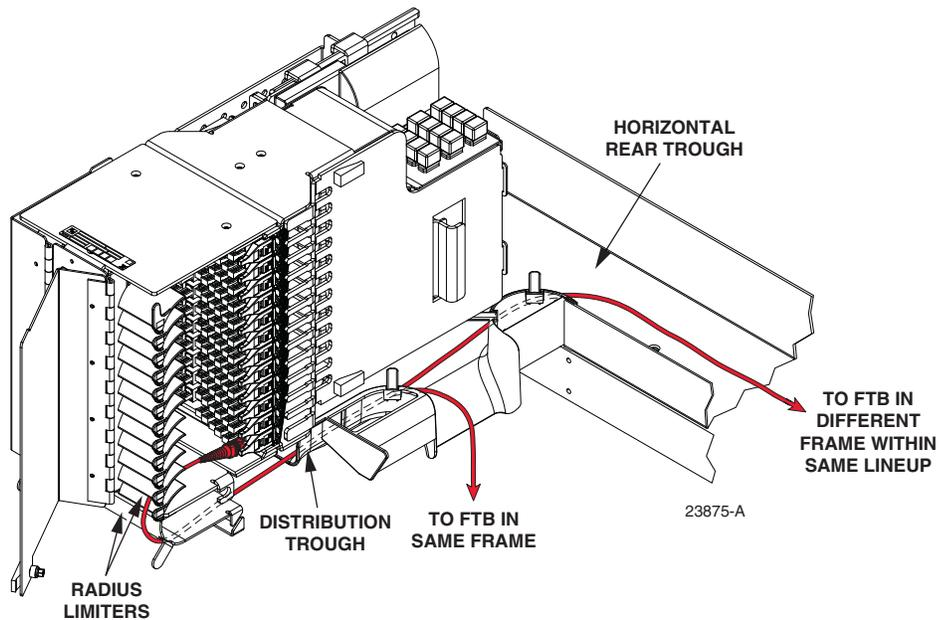

Figure 16. Routing the Patch Cord in the Distribution Trough
3. Route the patch cord around the radius limiters, into the distribution trough, and in either of the two directions as shown in Figure 16.